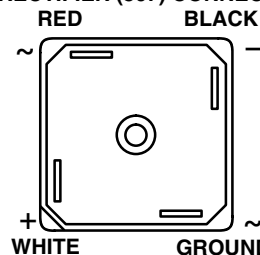

Fig. 31
4. Disconnect the red, black and white wires from the rectifier (307) which are sheathed with the conductor (309). Unscrew the connector (313) from the pressure control, pulling the conductor and wires out with it. See Fig. 31.
5. Use a wrench to hold the hex of the adapters (C) while removing the swivel unions (108). See Fig. 31.